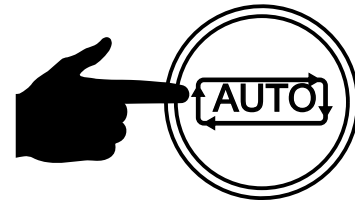

Figure 59. Auto Button
2. Press the **AUTO** button (Figure 59) on the controller.